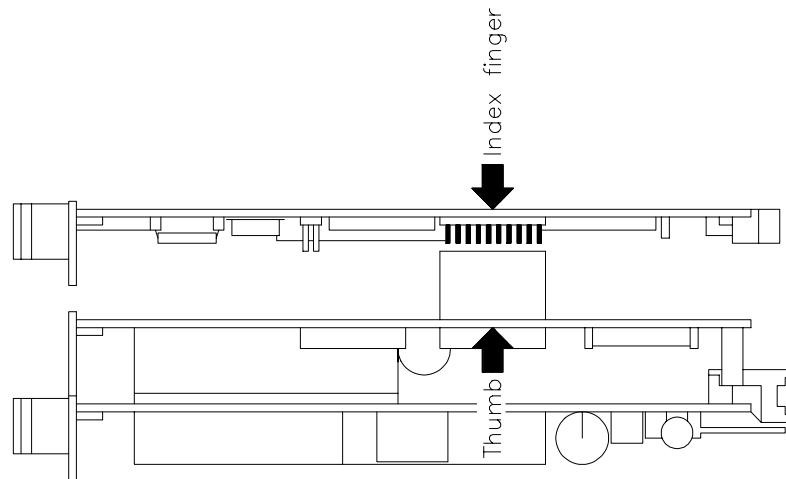

Figure 5 Pressure points during reassembly of module
8. Reassemble the module by carefully positioning the two sections on top of each other and pressing them together at the indicated positions (see Figure 5) using the thumb and index finger of both hands. Make sure to apply equal pressure at both sides of the module (top and bottom). Keep pressing until the module sections are tightly connected. Do not use excessive force!